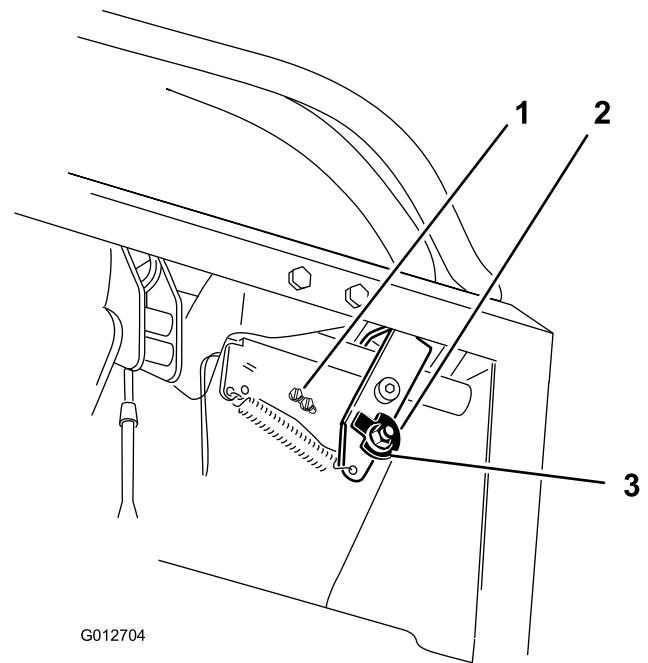
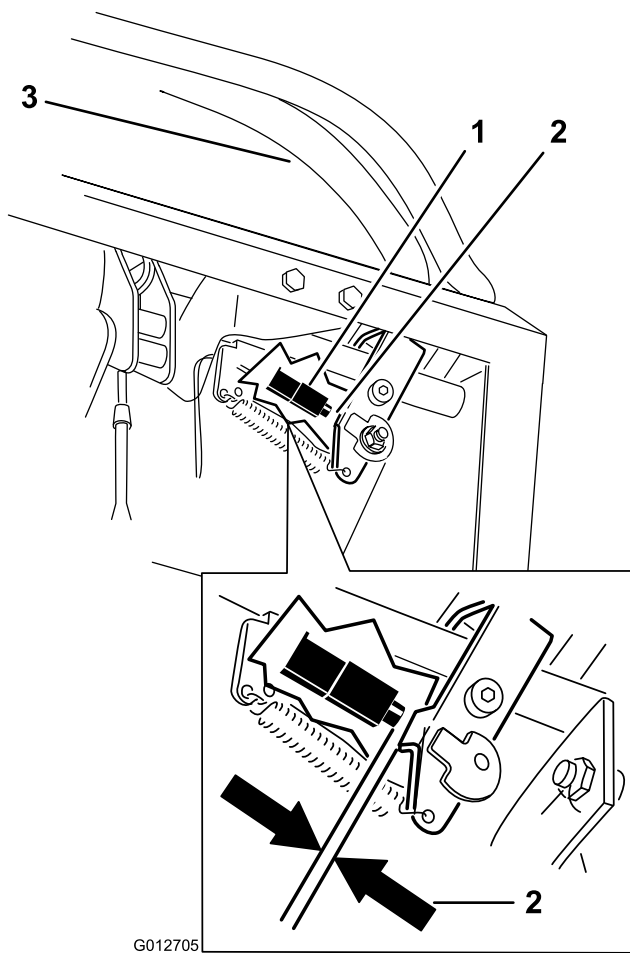

Figure 69
Figure 70
10. Check the gap between the control lever and switch as shown in Figure 70. The gap needs to be an 1/8 inch (3mm) with the right motion control lever in the neutral, unlocked position.
11. If needed, loosen the screws holding the switch and adjust the switch (Figure 69 and Figure 70).
7. Loosen the nut holding the cam (Figure 69).